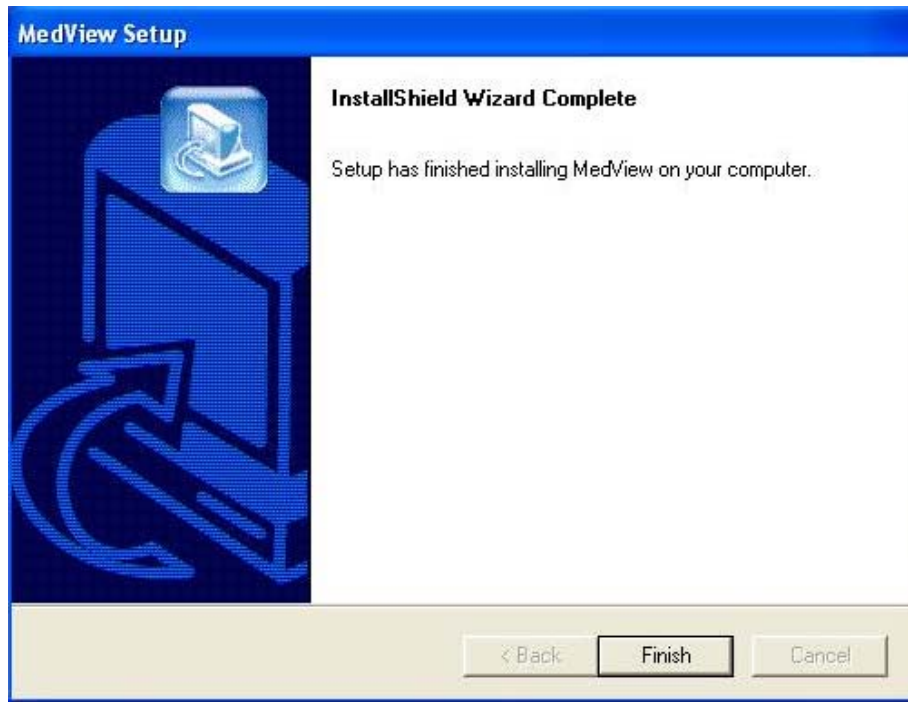

Figure 2-8
(8) Click “Finish” button in Figure 2-8, the shortcut icon will be created on the desktop, as shown in Figure 2-9. The shortcut and Uninstall MedView icons are added into “Start” menu on the left bottom of desktop, as shown in Figure 2-10.